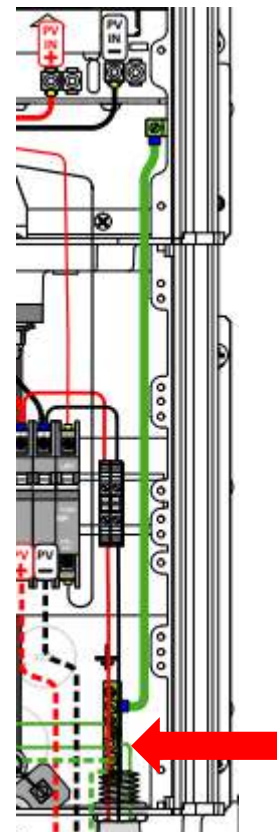

Figure 2
- **Figure 2** shows the Ground busbar in the Breaker Box.